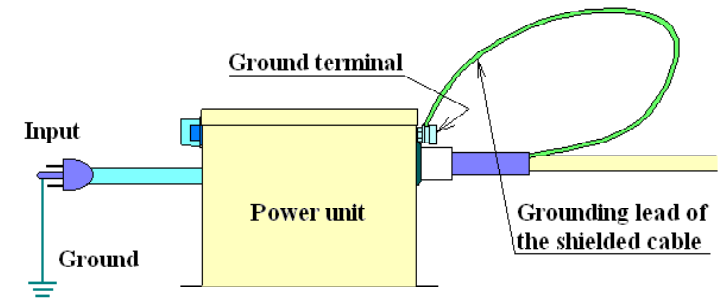

Fig.7 Shielded cable connection at the power unit
- Grounding lead of the shielded cable must be connected to the ground terminal of a power unit and then connected to ground as shown in Fig.7. The resistance to the ground must be less than 100 ohms. If grounding is not properly done, there is a risk of electrical shock/fire hazard.